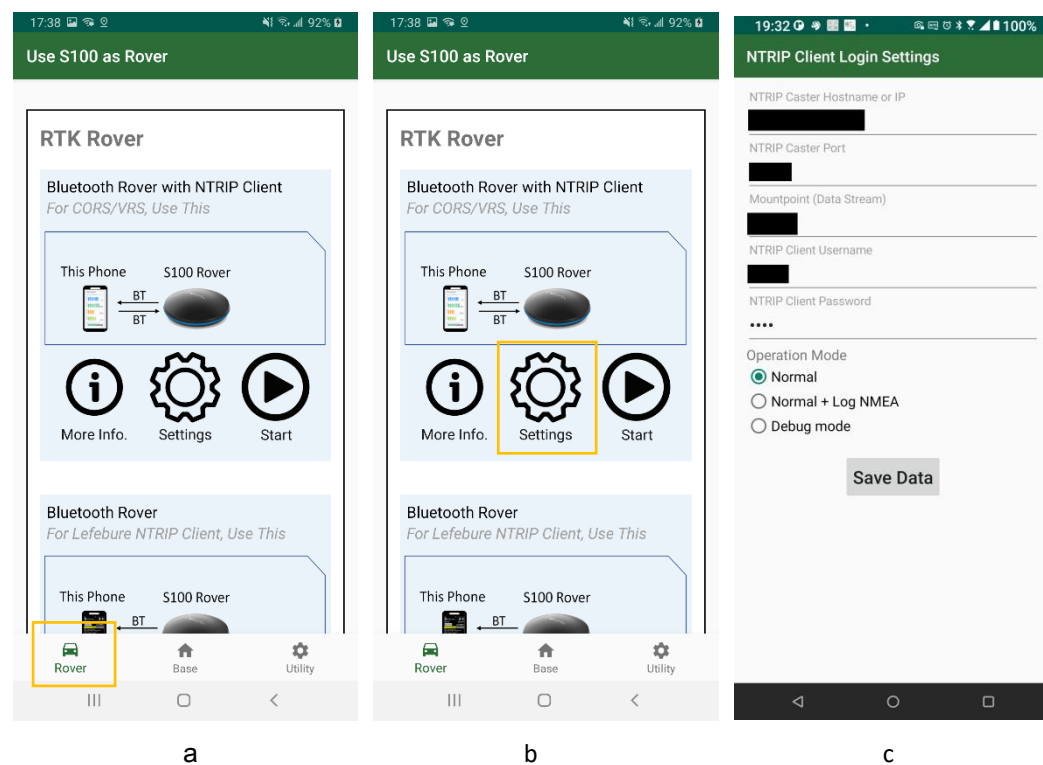

Figure 4-2
1. Switch to Rover tab in the app. See Figure 4-2 a
2. Click Settings (Figure 4-2 b) and configure NTRIP log-in information (Figure 4-2 c). The log-in information should be obtained from RTK correction service provider.